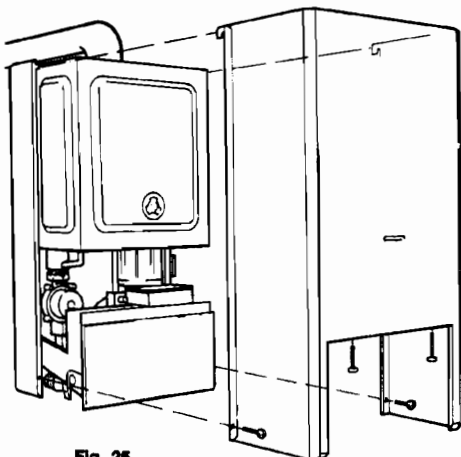

Fig. 25
6.14 Refixing the Front Cover (fig 25)
Slide the casing downwards to fully engage the hooks and to align the bottom fixing holes. Replace the four case retaining screws. (fig 25)